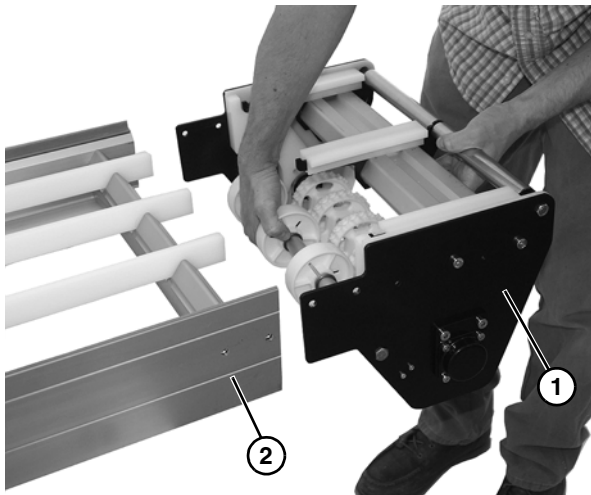

Figure 44
3. Remove the drive tail assembly (**Figure 44, item 1**) from the frame (**Figure 44, item 2**).